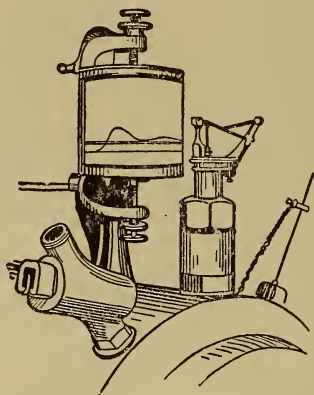

FIG. 116. AN APPARATUS FOR THE PREVENTION OF MINE DISASTERS.
*Mining and Metallurgy.*— Safety appliances are of the first importance in mine inventions, see Fig. 116, and after these, machines for labor saving should receive attention. If you understand mining, be it for